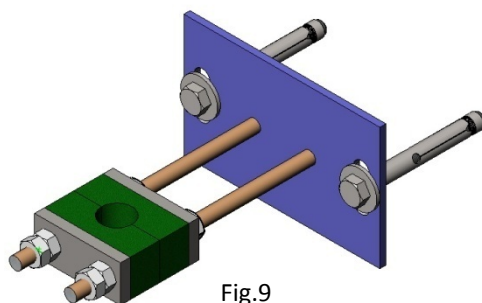

Fig.9
- A stem support-guide (Fig. 9) is recommended every 1.5 m.